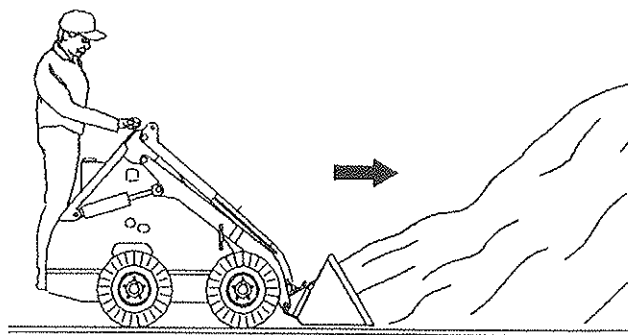

FIGURE 12
1. Approach the pile with the lift arms fully down and bucket cutting edge just skimming the top of the ground as in **Figure 12**.